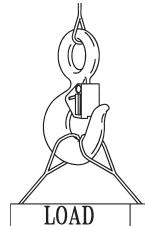

Figure 3
- When placing two (2) sling legs in hook, make sure the angle between the legs is less than 90° and if the hook or load is tilted, nothing bears against the bottom of this latch (See Figures 3 & 4).
- Always make sure the hook supports the load (See Figure 3). Do not use hook tip for lifting (See Figure 4).